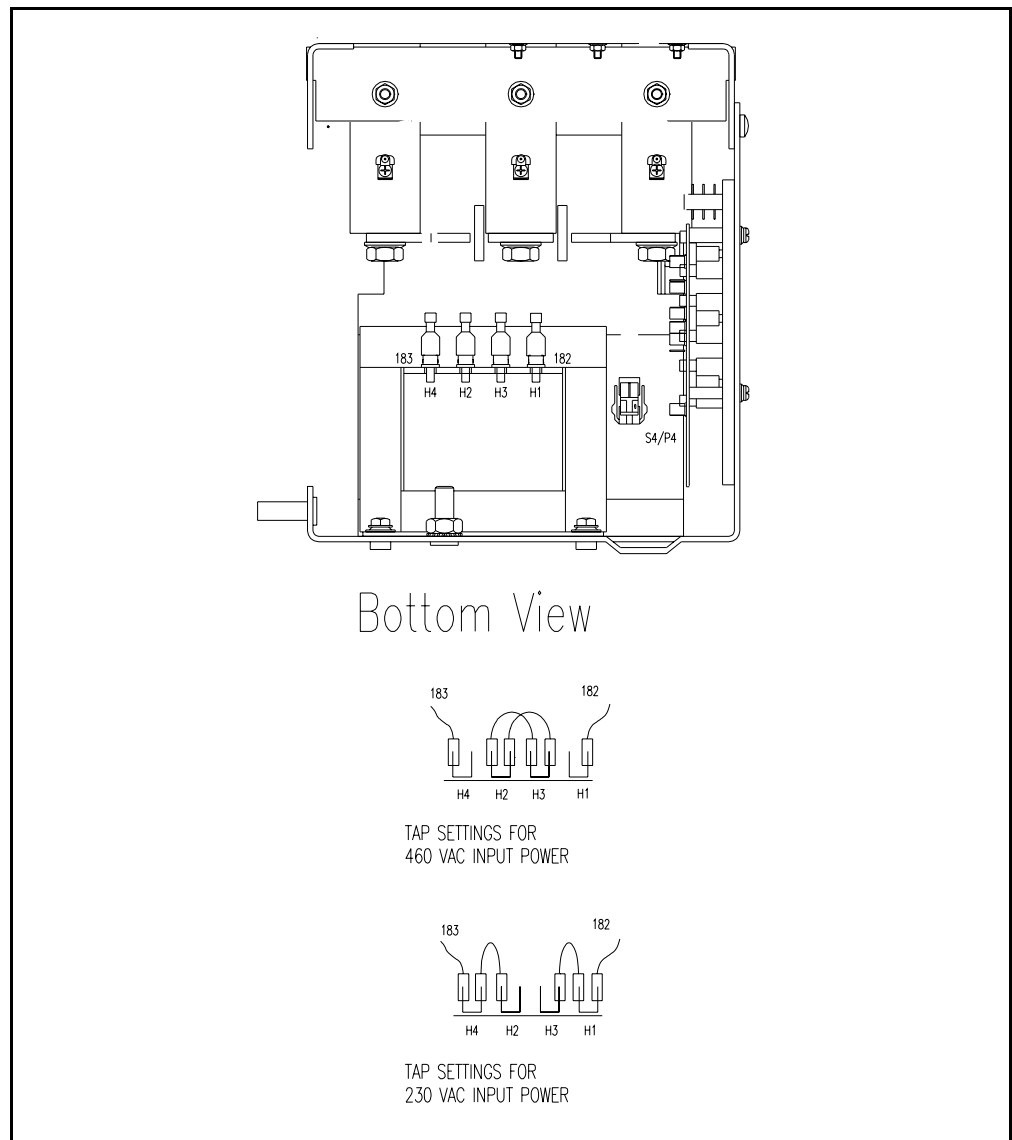

Figure 3.2 – Control Transformer Settings (230/460 VAC)
- Step 2. Disconnect the jumpers between H2 and H3 on the control transformer. See figure 3.2 for the location of the control transformer and the terminal positions.
- Step 3. Use the jumpers that were removed to connect H1 to H3 and H4 to H2, as shown in figure 3.2.